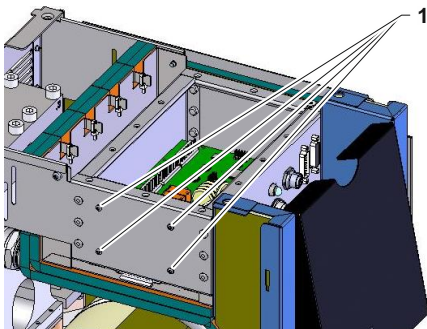

Fig. 2: Power supply Vario-5
- Remove 4 screws (label 1 → Fig. 2)
- Fix the replacement VFC-51 (A 3) in the electrical part with 5 screws (label 1 → Fig. 2).